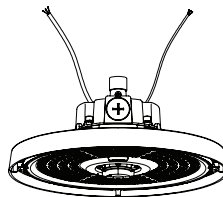

FIGURE 9
- Step 2. Insert the 1/2" NPT stem into the bracket hole (see Figure 9).